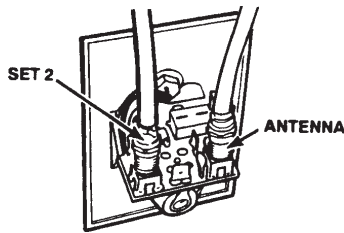

FIGURE 7
STEP 6. The power supply/wall outlet assembly may be flush mounted in most standard electrical boxes. To flush mount cut a hole in wall to fit the box. Run 2 #12 wires between wall outlet and 12VDC source and route download cable to this location. Install cable between set 2 outlet and power supply SET 2 jack at this time. See Figure 7.
STEP 7. Install connectors on download and set 2 cable as shown on page 4. Attach antenna download cable to jack on power supply marked "ANT". See Figure 7.